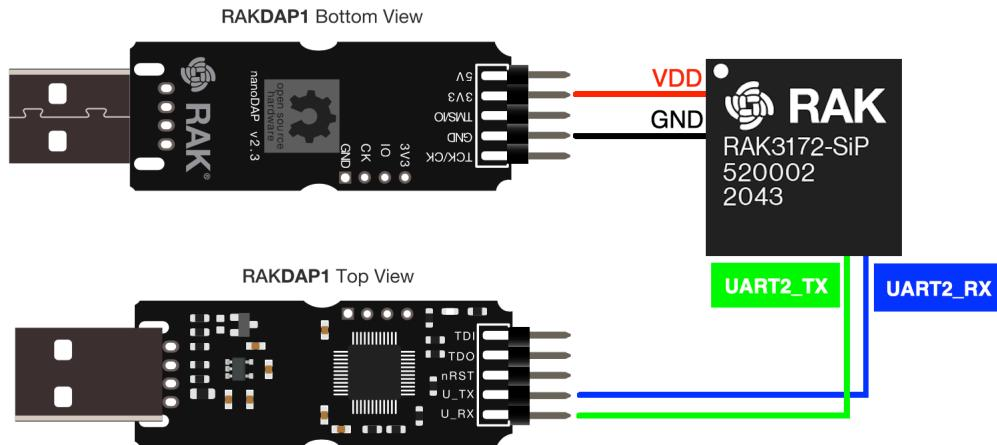

Figure 26: RAK3172-SiP UART2 connection
1. Connect the RAK3172-SiP to the serial port of a general-purpose computer (USB port) using a USB to UART TTL adapter like RAKDAP1, as shown in Figure 26.